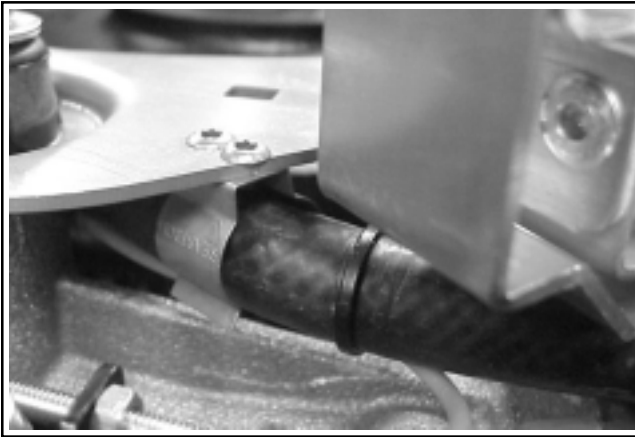

Figure 11-78. Seating By-pass Hose.
- Lift the by-pass hose and secure it within the metal clip under the main support bracket. See Figure 11-78.